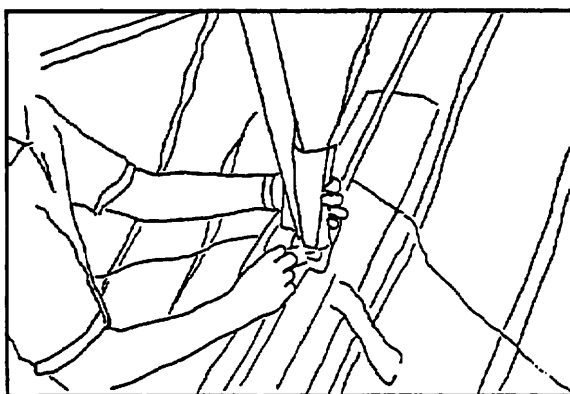

Figure 80
6) Place the kingpost base protector around the kingpost base with the VG compensator cable passing through the slot in the protector, and secure by pressing the velcro surfaces together. (Figure 80, 81)